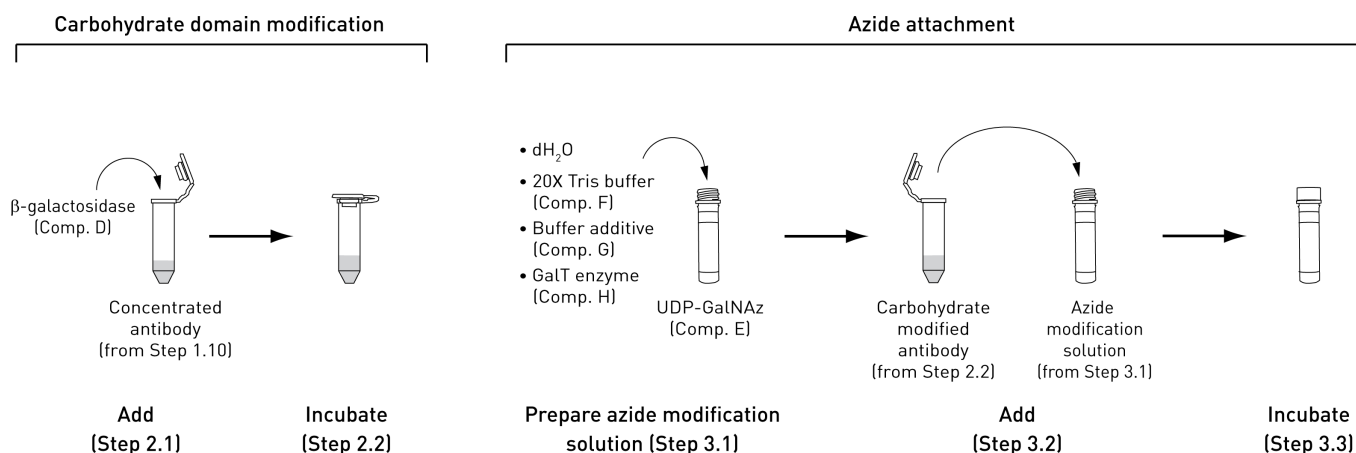

Figure 3 Modification of antibody carbohydrate domain and azide attachment
- 2.1 Add 10  $\mu$ L of  $\beta$ -galactosidase (Component D) to the antibody collected in Step 1.10, as shown in Figure 3.
- 3.1 Prepare the azide modification solution by adding the following components to the tube containing UDP-GalNAz (Component E), as shown in Figure 3: